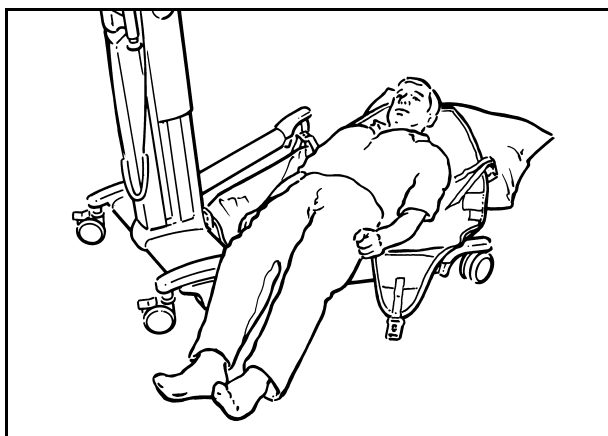

Fig. 27
Put the sling around the patient, by rolling or sitting the patient up. Open the chassis legs first, then approach and lift the patient's legs over the chassis as shown in Fig. 27.
**CAUTION: While the patient is positioned over the legs as shown in Fig. 27, DO NOT operate the adjustable chassis leg controls.**